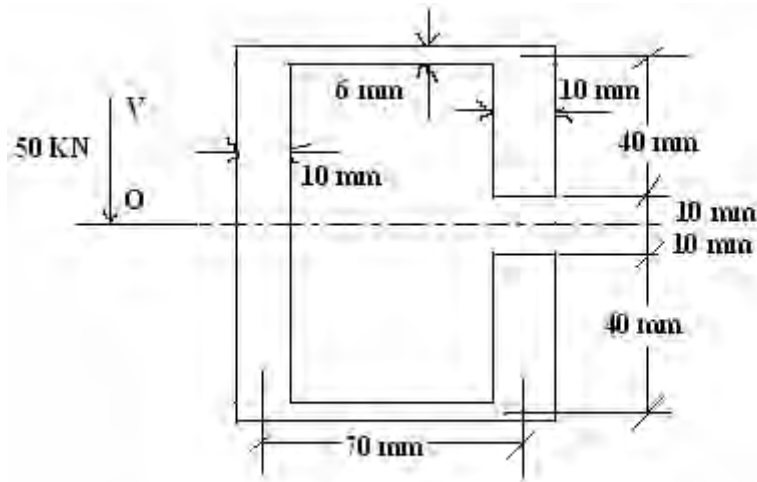

Figure 5:
5. A lipped channel dimensions and loading conditions as shown in figure 5, find out the shear centre. [16]